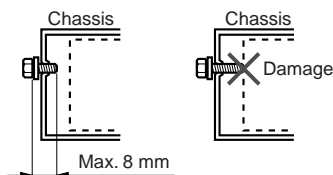

Figure 4
5. Use the enclosed screws for installation. Using other screws can cause damage. (Figure 4)